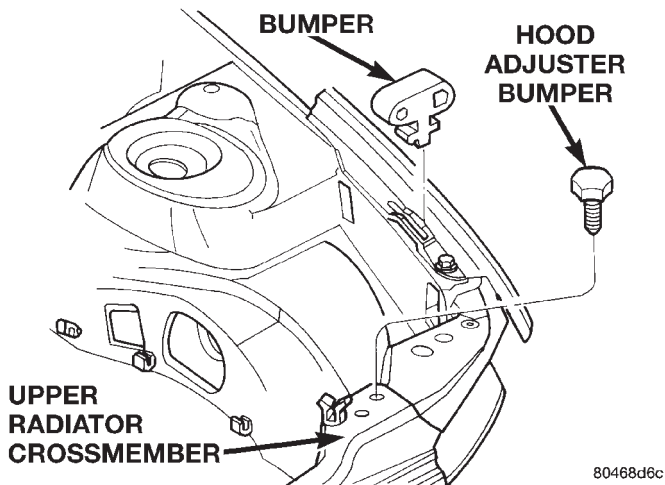

Fig. 7 Hood Adjuster Bumper
(3) Separate hood adjuster bumper from radiator closure panel (Fig. 7).